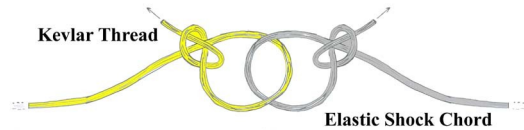

Figure 8
- **Step 16** Tie a slip knot in the free end of the Kevlar thread, as shown in Fig. 8. Insert one end of the elastic shock chord through the loop and tie a slip knot in it, then pull the two knots tight against each other. Attach the barrel end of one of the snap links to the free end of the elastic chord. Apply a layer of thinned glue to all of the knots to secure them, and allow to dry for about 30 minutes.